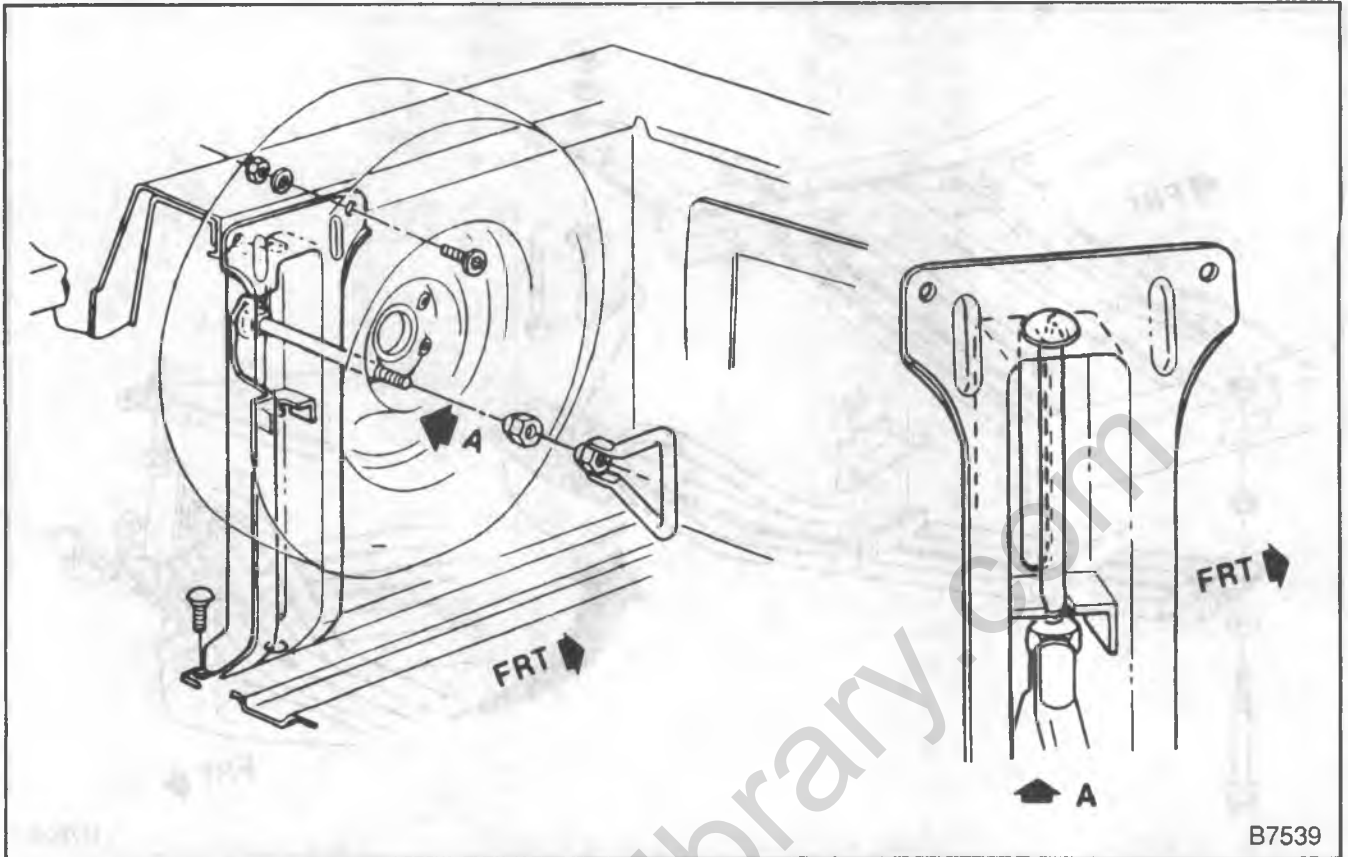

Figure 11—Side Panel Mounted Spare Tire Carrier-R209(43) and R/V 309
The side panel mounted spare tire carrier is available as an option on R209 (43) and R/V 309 series pickups (figure 11).